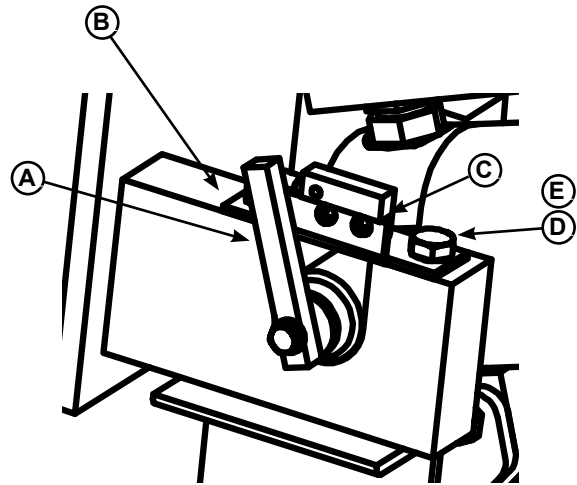

Figure 12
A. Locate the proximity switch that is mounted in the bracket located on the trunnion for the hook cylinder. Locate the target for the switch. See Figure 12.